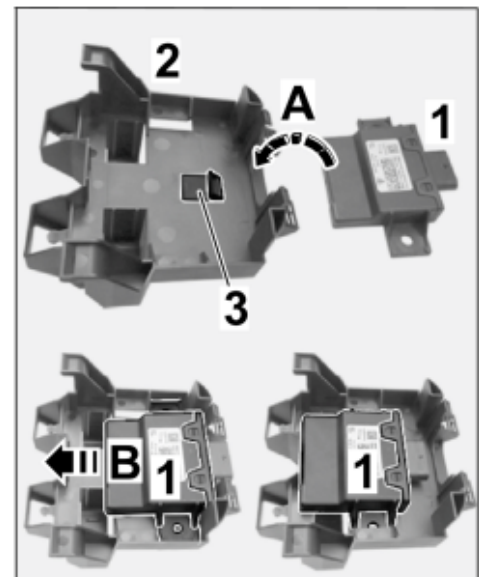

Figure 6
- 2.3.2 Insert the new engine noise control unit on the underside in the control unit holder. ⇒ *Figure 6 -A-*
- 2.3.3 Push the engine noise control unit in the holder to the opposite side of the plug connection until the control unit engages in the holder. ⇒ *Figure 6 -B-*